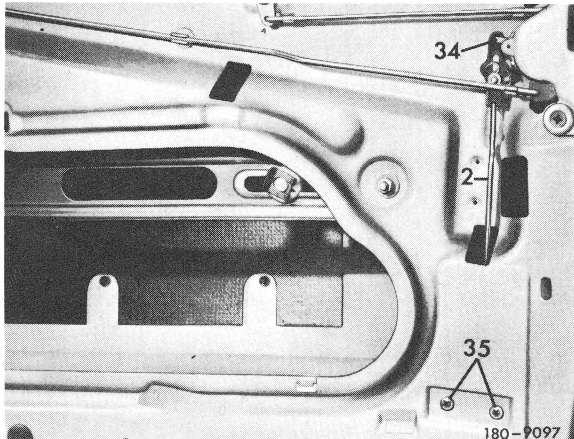

Fig. 1
- 2 Disconnect safety clip (34) of control rod (2) (Fig. 1).
- 3 Unscrew both oval head screws (35) (Fig. 1).
- 9 Insert vacuum element with control rod into driver's door and screw down with oval head screws (35) (Fig. 1).
- 10 Secure control rod (2) with safety clip (34) on door lock (Fig. 1).